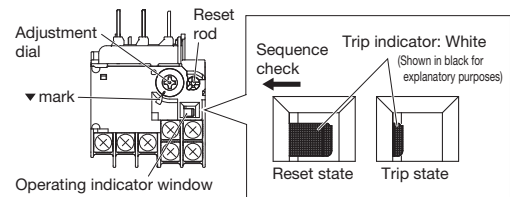

Fig. 1
##### (4) Reset method [Fig. 1]